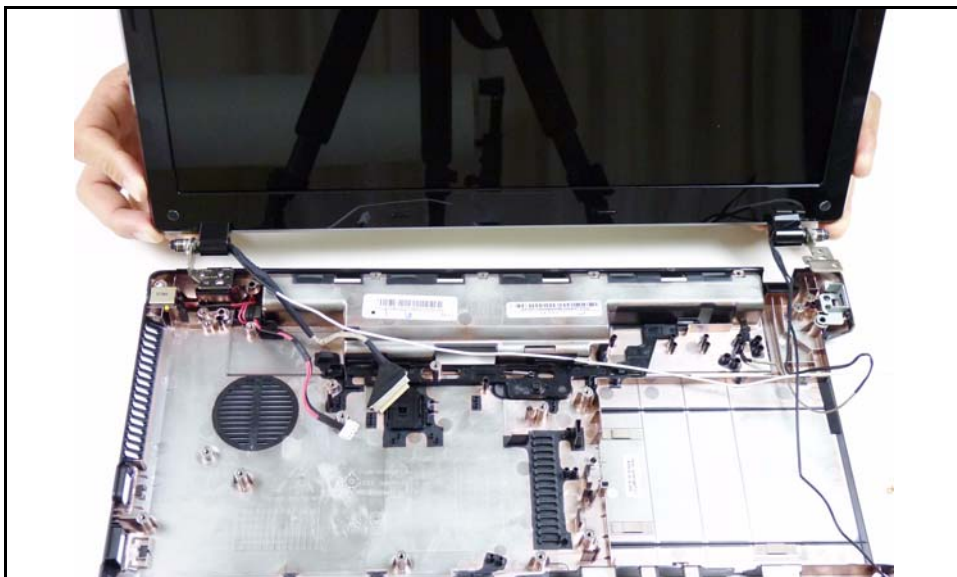

Figure 3-37. LCD Module
2. Remove the upper cover from the LCD module. (Figure 3-37)
1. Align LCD hinges with the hinge guides on the upper cover. (Figure 3-37)